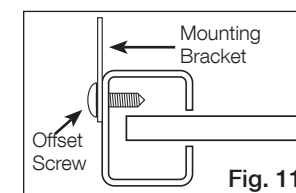

Fig. 11
- Attach the flat brackets to the C-Channel using screws or rivets ensuring that the screws are offset from the centre of the C-Channel (Fig. 11) so that they do not interfere with the thermal expansion of the panel. Position the brackets so they don't interfere with the pins.